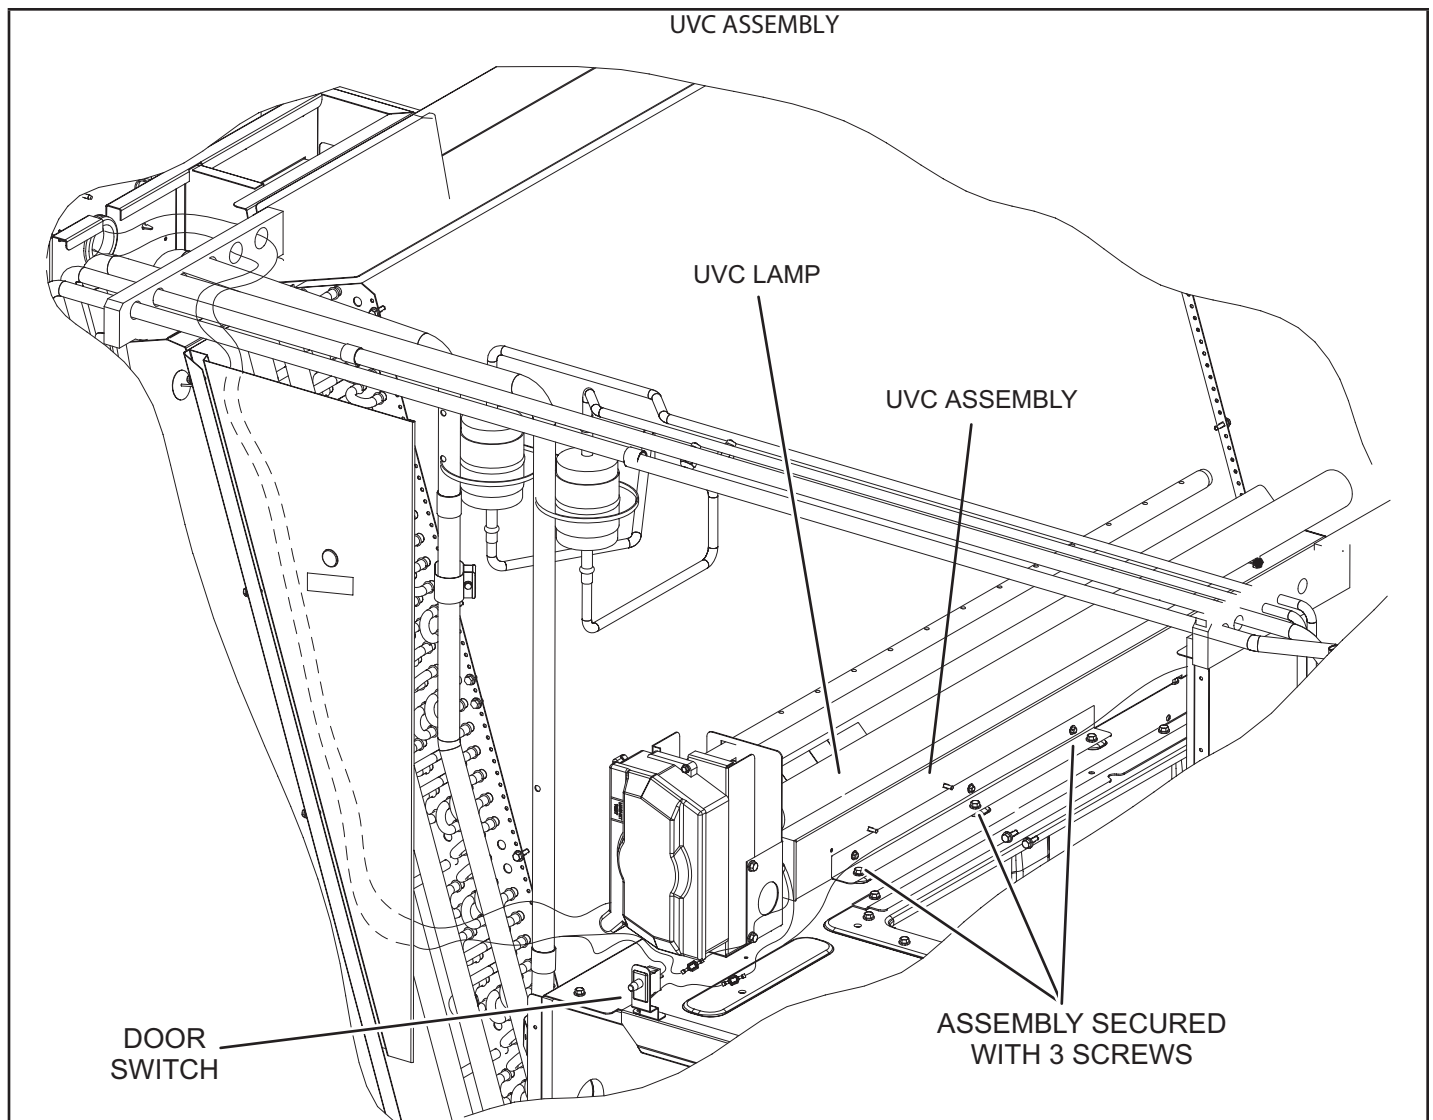

FIGURE 43
When the UVC light is factory installed, the lamp is shipped in a foam sleeve. The lamp is attached to the UVC light assembly on the blower deck. See FIGURE 43. Remove the lamp and install into the UVC light assembly as shown in steps 2 through 11.
- 4 - Remove and retain the (3) screws securing the UVC assembly. Carefully slide the complete UVC assembly out through the blower access door. See FIGURE 43.
- 7 - Carefully place the UVC assembly on the blower deck. Line up the mounting holes on the UVC assembly with the mounting holes on the blower deck. See FIGURE 43. Use the retained screws provided to attach the UVC assembly in place.